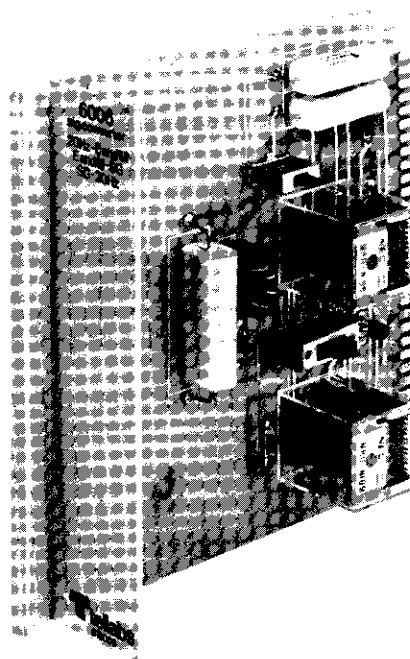

figure 1. 6006 Signaling Converter
1.01 The 6006 Signaling Converter module (figure 1) provides three modes of signaling conversion — E and M to ringing (20Hz), SG-lead to E and M, or SG-lead to ringing (20Hz) — on either 2wire or 4wire voice-frequency transmission facilities.